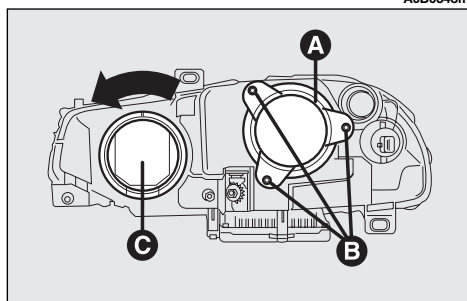
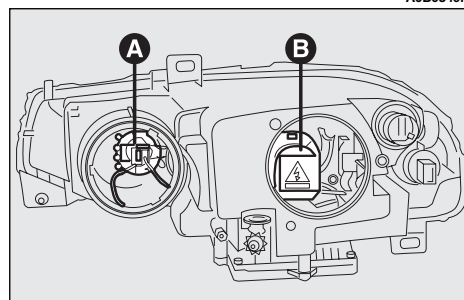
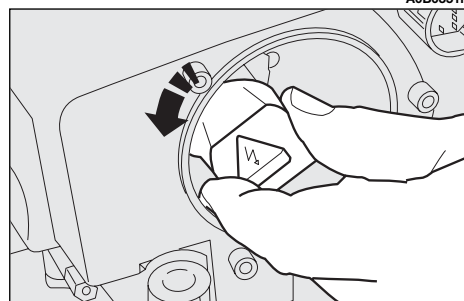

fig. 23
fig. 24
fig. 25
— Rotate the connector (**B-fig. 24**) of the Xenon lamp by a quarter of a turn counter-clockwise, as indicated in (**fig. 25**) and remove it.
- Unscrew the three locking screw (**B-fig. 23**) and remove the protective (**A**) cover.
- Refit the protective cover correctly (**A-fig. 23**).
- Turn the protective cover counterclockwise (**C-fig. 23**) in order to reach the high-beam headlight bulb (**A-fig. 24**).
- Refit the protective cover correctly (**C-fig. 23**).
- Turn the protective cover (**C-fig. 23**) counter-clockwise in order to reach the side-light bulb.